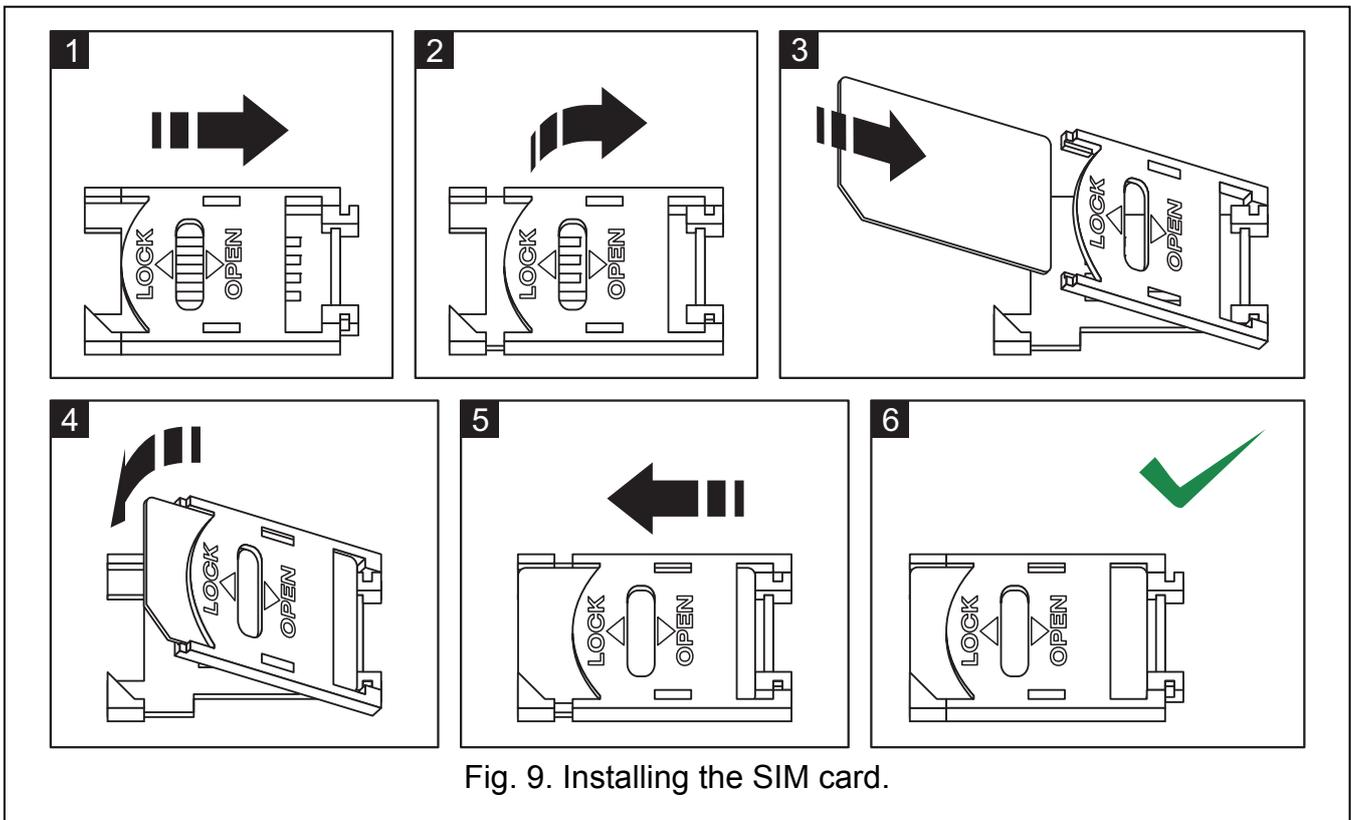

Fig. 9. Installing the SIM card.
11. Insert the SIM card into the socket (see: Fig. 9).